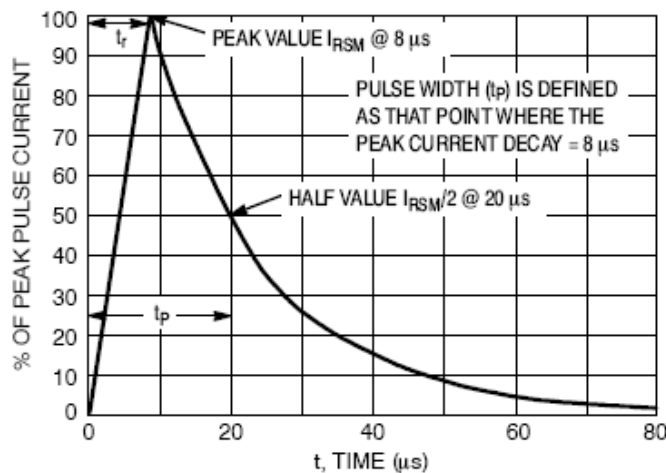

Figure 5. 8 X 20  $\mu s$  Pulse Waveform
- Surge current waveform per Figure 5.